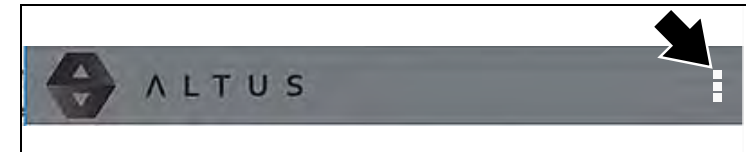

Figure 14-19
1. From Shop Files, select the **Menu** icon (Figure 14-19) from the upper toolbar.